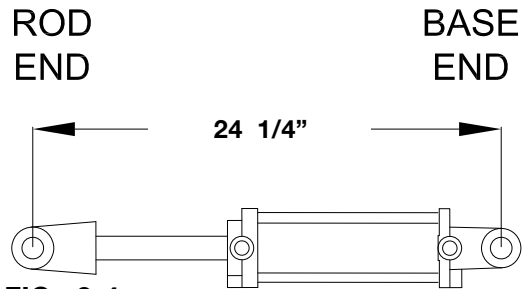

FIG. 2-4
4. Open the base parts box/crate (76532B) and locate the two 3 1/2" x 12" hydraulic cylinders (9501755) and parts bag (88590), which includes the four 1" Dia. x 4" pins (85631) and eight 1/4" Dia. x 1 7/8" spiral pins (91144-165). Check that retracted cylinder length is 24 1/4" (FIG. 2-4). Adjust both cylinders to this dimension as necessary.